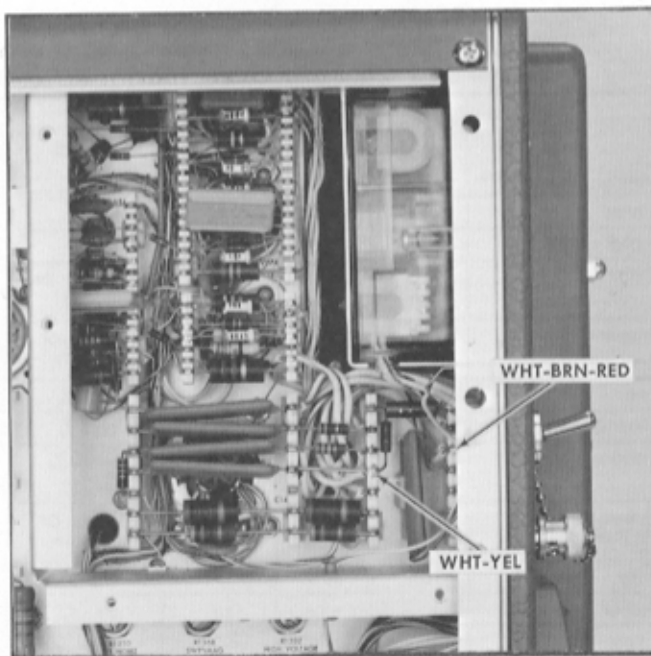
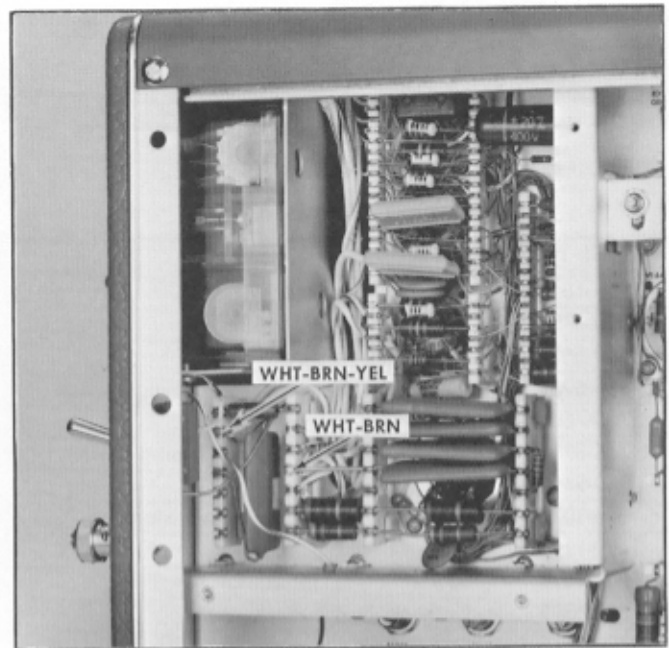

Fig. 4-7. CRT filament lead locations (Lower Beam).
Fig 4-8. CRT filament lead locations (Upper Beam).
7. Unsolder 2 wires from each high voltage compartment, as shown in Fig. 4-7 for the Lower Beam, and Fig. 4-8 for the Upper Beam. These wires are the filament leads to the CRT and are color coded as shown on Fig. 4-7 and 4-8.
9. The new transformer may be installed by reversing the procedures. Refer to the color coding information shown in Figs. 4-7, 4-8 and 4-15.